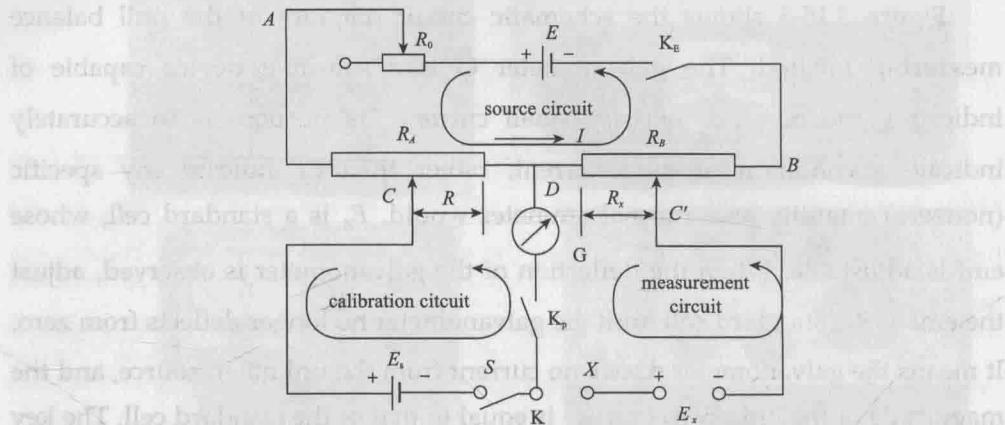

Fig. 3.15-4 A schematic circuit diagram of the potentiometer
- (1) Can we use a voltmeter to measure the emf of a cell? Why?
- (2) What is the null balance measuring method in electricity?
- (3) In Fig. 3.15-4, consider  $E_s = 2.000V$ . What's the resistance value of  $R$  in order to obtain a working current of 5.000mA in the source circuit? In the measuring circuit,  $R_x$  is  $201.5\Omega$  when the galvanometer reads zero. What's the measured emf?
The box potentiometer is constructed on the principle of null balance. A schematic diagram of the potentiometer is shown in Fig. 3.15-4, where  $E$  is a stable current source with a constant voltage greater than any voltage to be measured,  $E_s$  is a standard cell with emf of 1.0185 V,  $E_x$  is an unknown emf produced by thermocouple in this experiment,  $R_0$  is a variable resistor,  $R_A$  and  $R_B$  are two resistors,  $C$  and  $C'$  are two sliding contacts which varies the resistances in the calibration and measurement circuits,  $R$  and  $R_x$  are the
$R_1$ $R_2$ $R_3$	They are the resistance $R$ in Fig. 3.15-4. Tune them to calibrate the current in source circuit to 10.000 mA when the galvanometer reads zero
$K$	It is the switch $K$ in Fig. 3.15-4. When calibrating, it should be turned to "standard"; when measuring, turn it to "unknown 1" or "unknown 2"; Turn it to "off" when it is not in use
Coarse Fine Short	They are the switch $K_p$ in Fig. 3.15-4. You will use it when calibrating and measuring. At the beginning of calibration or measuring, press down the "coarse" button and it will be observed that the galvanometer deflects far from zero. After the galvanometer deflects close to zero you can lock the "coarse" button and push down the "fine" button. The "short" button is used to calibrate the galvanometer
I II III	The resistance $R_B$ (or $R_x$ ) in Fig. 3.15-4. Tune them to make the measurement circuit null balance when the galvanometer reads zero. The values are transferred to millivolt due to the fixed current of 10.000mA through $R_B$ in the source circuit
- (1) The output of the stable power supply is in the range of 5.7~6.4 V. We call it the working voltage of the potentiometer. Can we measure an emf by a potentiometer which is greater than the working voltage? Why?
- (2) In Fig. 3.15-4, the purpose of the calibration circuit is to get a current of 10.000 mA in the source circuit. Can the calibration circuit be replaced by an ammeter? Why?